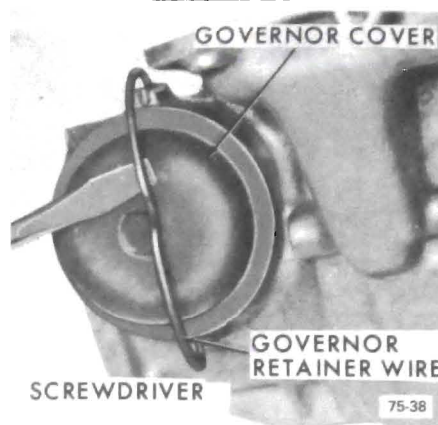

Figure 75-64
1. Remove governor cover retainer wire with a screwdriver. See Figure 75-64.